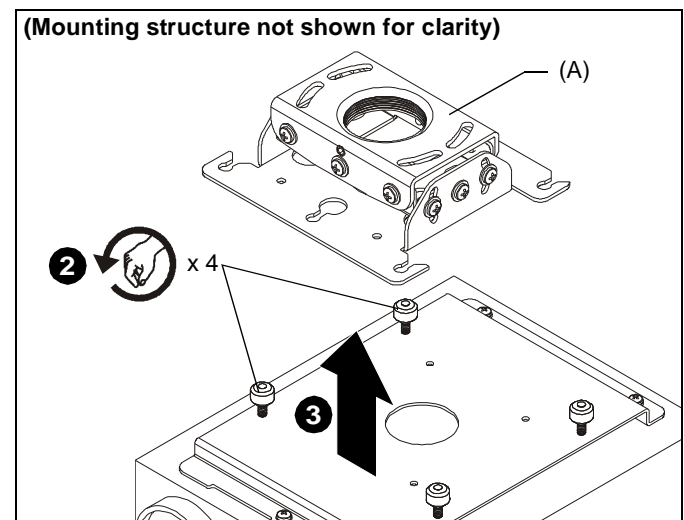

Figure 7
2. Loosen (but do not remove) thumb nuts on the interface bracket. (See Figure 7)
3. Raise projector with attached interface bracket to RPE projector mount (A). (See Figure 7)